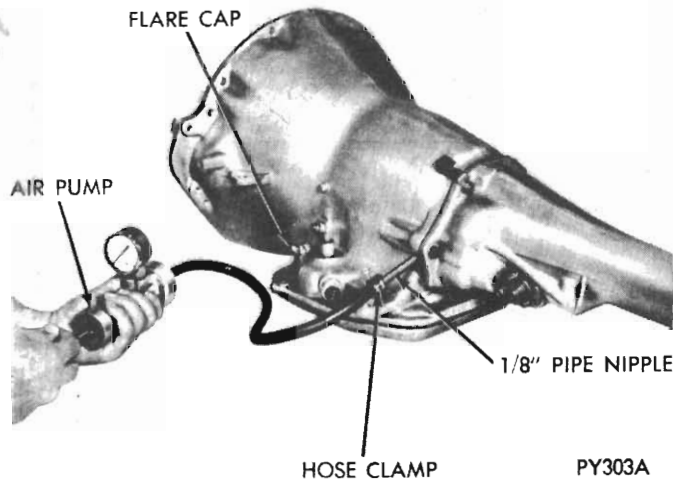

Fig. 108 - Pressurising transmission
(1) Install filler tube bore plug, propeller shaft yoke (tie in with cord or wire), flared tube fitting cap (on front cooler line fitting), and pipe nipple (in case at rear cooler line fitting) (Fig. 108 and 109).
(2) Remove necessary front pump housing bolts, and vent shield (in A-727 transmission). Install vent plug (rubber stopper), and vent plug re-
(4) Attach and clamp hose from nozzle of Tool E7C15 to pipe nipple, which is in the rear cooler line fitting position in case (Fig. 108).